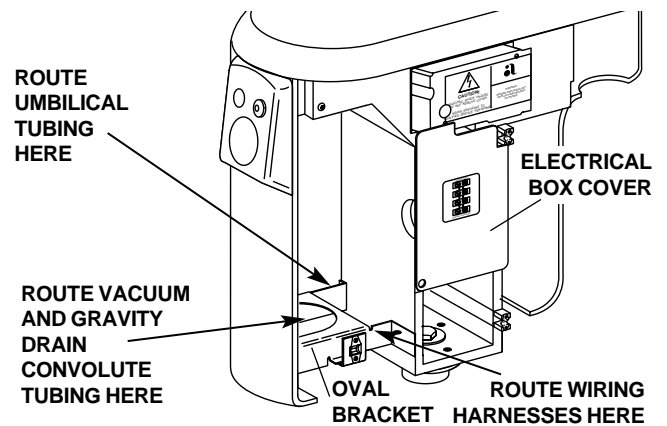

FIGURE 21
1. Route the wiring harnesses through the square opening and to the electrical box (see *Figure 21*).
2. Route the umbilical tubing through the square opening and to the air/water side of the post box (see *Figure 21*).
3. Route the vacuum and gravity drain convolute tubing through the oval hole in the bracket (see *Figure 21*).
1. Remove the electrical box cover (see Figure 21 on page 7).
2. Connect the wires from the cable coming from the floor box to the terminal strip located inside the electrical box (see Figure 22). The label on the electrical box cover (see Figure 21 on page 7) shows the positions for each wire connection to the terminal strip.
7. Place all of the connectors in the electrical box and install the cover (see *Figure 21 on page 7*).